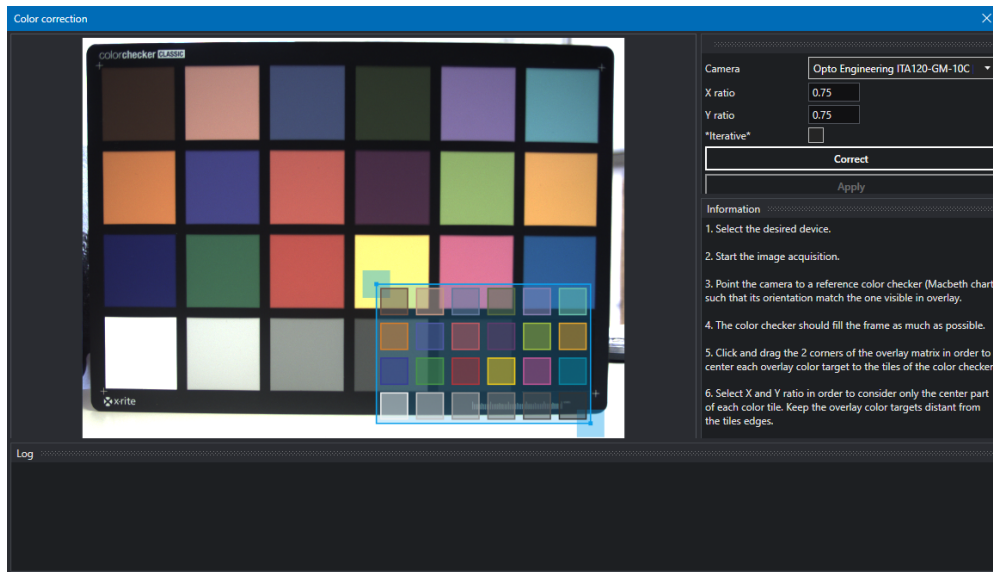

Figure 22: Window of the color correction wizard.
3. Open the Color Correction Wizard (*Wizard* > *Color correction*) (Fig.22).